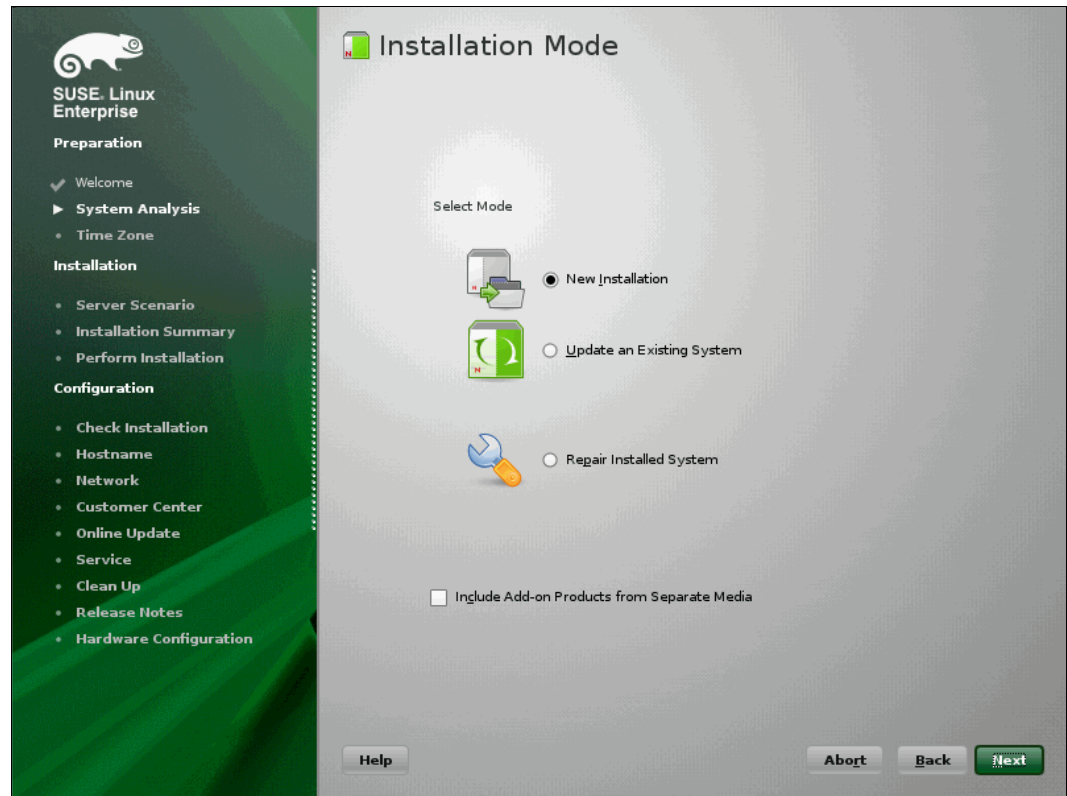

Figure 9-43 Installation mode window
10. In the Installation Mode window (Figure 9-43), select the mode (typically New Installation), and click **Next**.